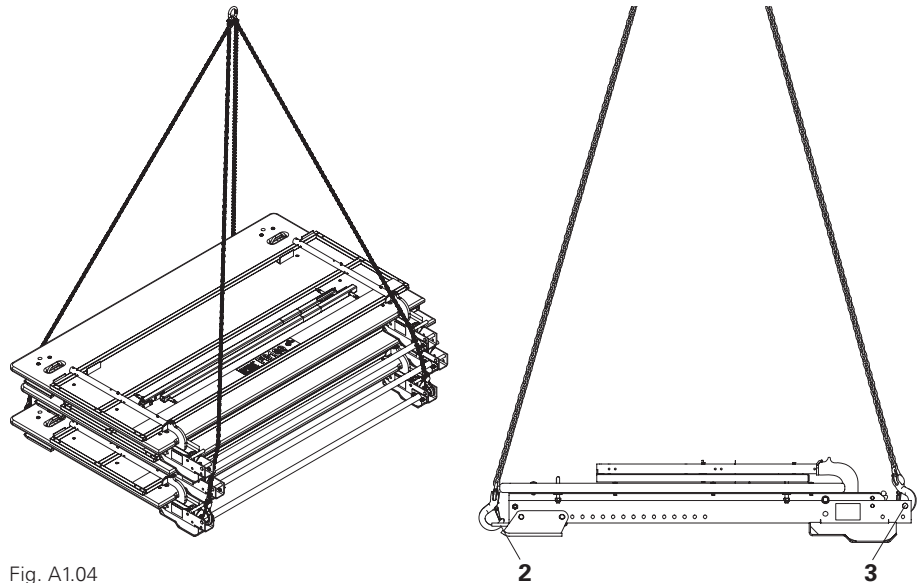

Fig. A1.04
Attach stack with up to 10 FB or FEB platforms to lifting eyes (2) by means of lifting and locking pins, and move. Stacks with intermediate platforms are to be moved with rounded lifting slings. (Fig. A1.04)